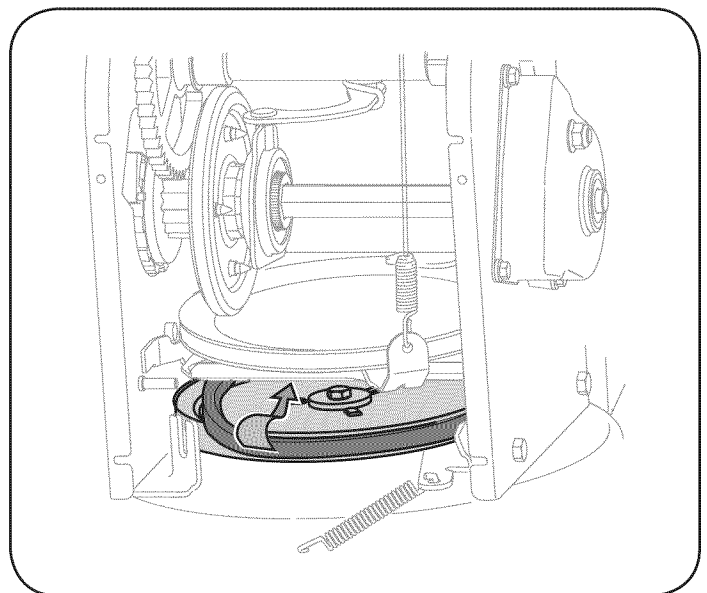

Figure 34
- Remove the belt from around the auger pulley, and slip the belt between the support bracket and the auger pulley. See Figure 34.